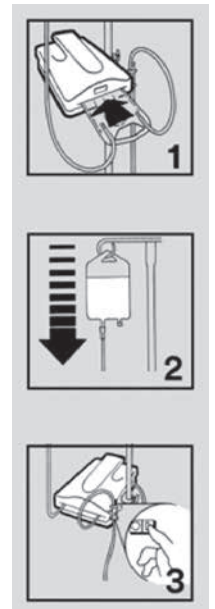

Figure 4
2. Slide the cassette into the slot in the warming unit. The cassette can only fit into the device one way (see Figure 4, #1).
3. Prime the warming set. For more information about priming the set, refer to instructions provided with the warming sets (see Figure 4, #2).
5. Plug the power cord into an appropriate outlet. Turn the unit ON (see Figure 4, #3). In a few seconds the alphanumeric display will illuminate. It takes less than two minutes to warm up to the 41°C set point temperature.